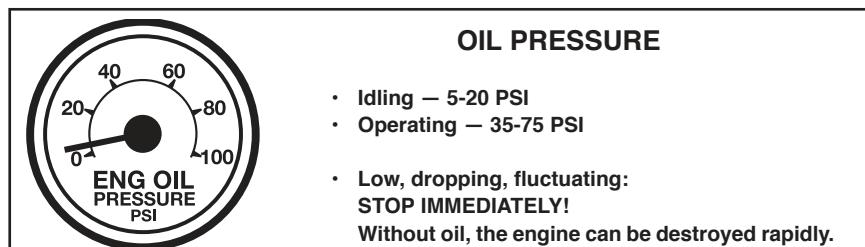

Figure 2.5
- **Oil pressure.** Should come up to normal within seconds after engine is started. (See Figure 2.5.)